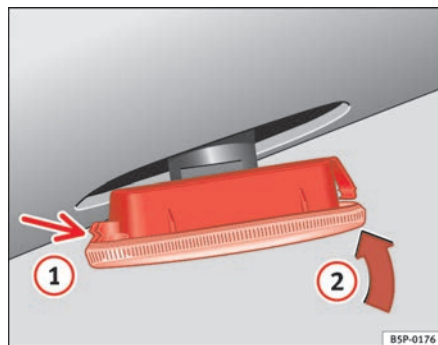

Fig. 195 Side indicator
- First place the indicator in the opening in the bodywork, fixing the tabs ⇒ fig. 195, arrow ①.
- Insert the lamp as shown by the arrow ② ⇒ fig. 195. ■